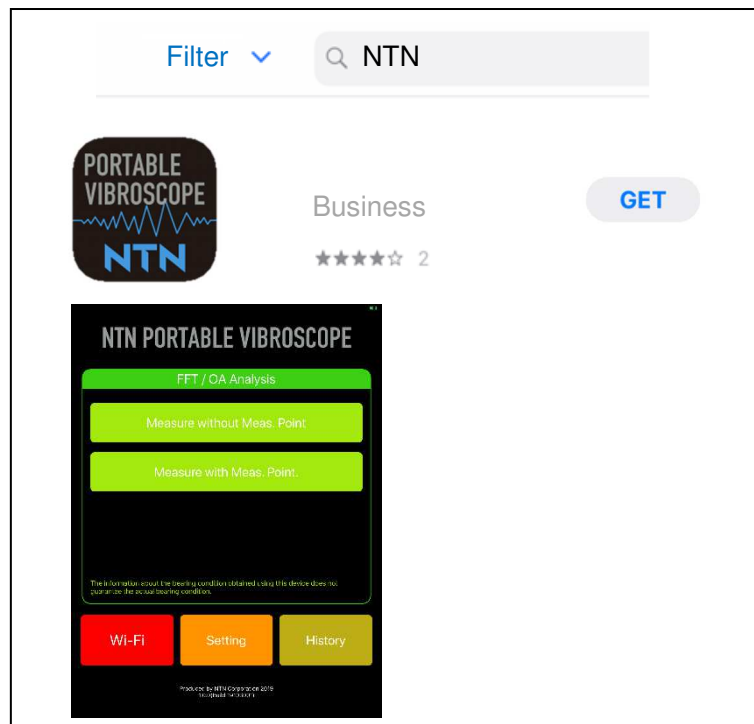

Figure 4.1 Getting of application from App Store
- (1) Connect iPad to the Internet.
- (2) Activate App Store on iPad.
- (3) After the activation, tap the icon for search and input "NTN" in the search window. After the search, some candidate application are displayed and tap "Get" button of "NTN PORTABLE VIBROSCOPE" (upper figure of Figure 4.1) to download/install it.
- (4) After the installation ends, the icon of "NTN PORTABLE VIBROSCOPE" is displayed on the iPad screen.
- (5) If the icon is tapped and the screen of lower figure in Figure 4.1 is displayed, the installation is completed.